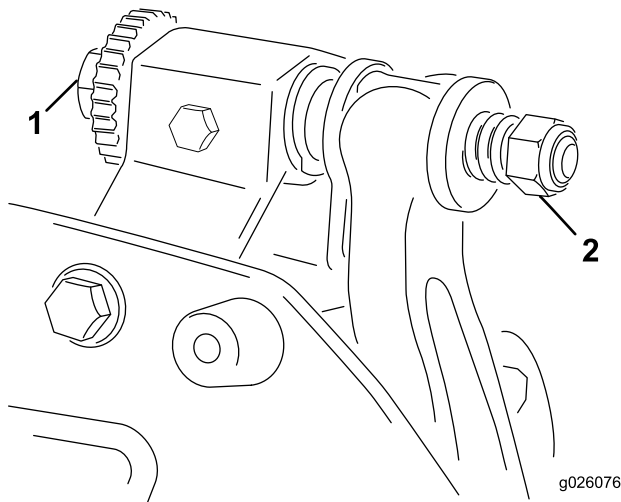

Figure 10
2. Tip the cutting unit to expose the bedknife and the reel. **Make sure the nuts or the back of the bedbar adjusting screws are not resting on the work surface (Figure 10).**